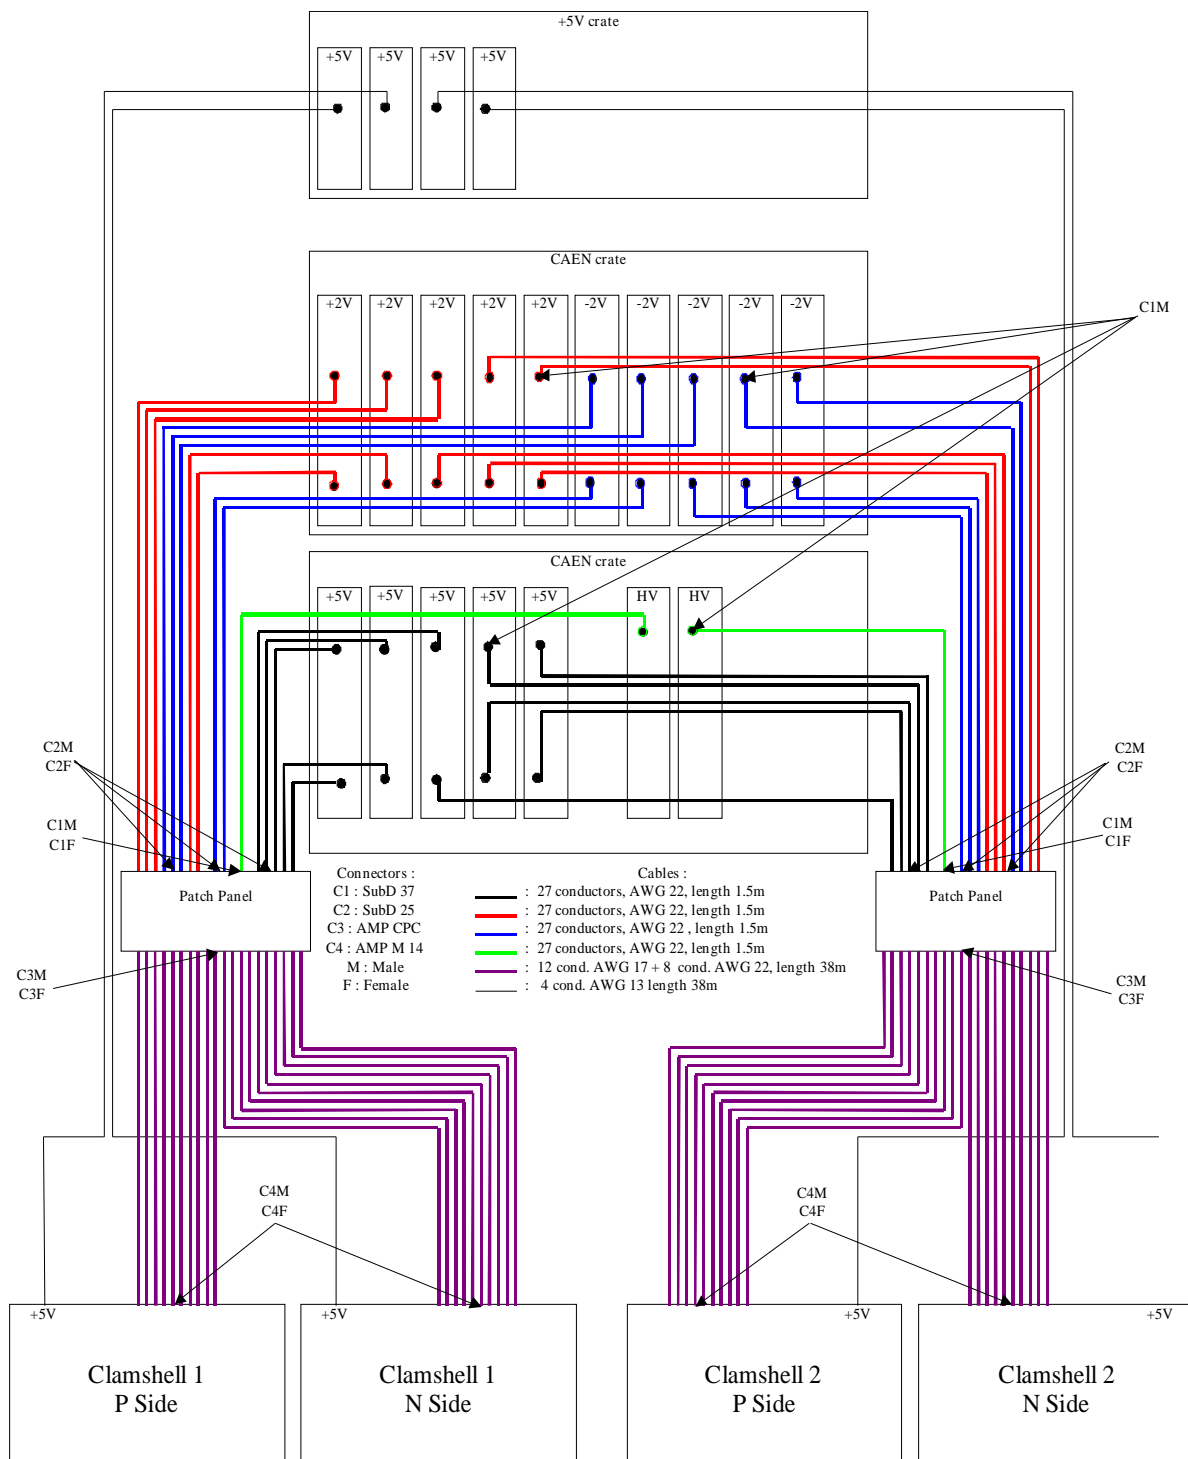

Figure 4 : Power supply distribution
- Distributes the power lines coming from the CAEN crates to the 20 ladders (Fig. 4).
The purpose of the power distribution boards is to distribute the voltages coming from the CAEN power supply boards in order to have 40 sets of cables, each set corresponding to one half-ladder (see fig. 4).